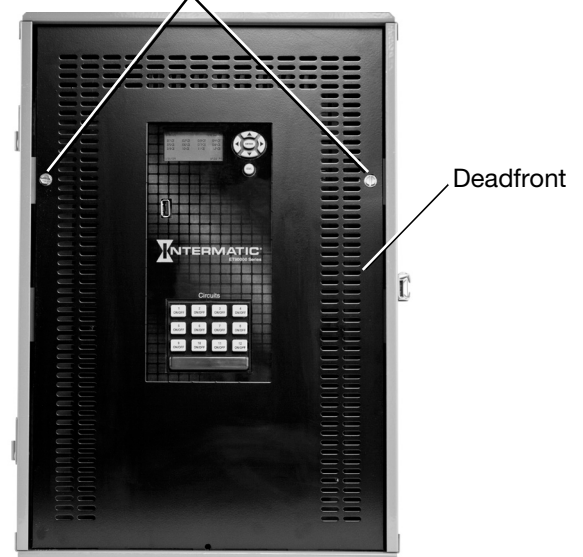

Figure 1. Removing the deadfront.
3. Remove the screws on the deadfront and remove the deadfront from the enclosure. (see Figure 1)